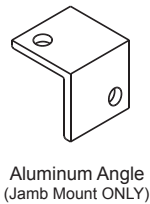
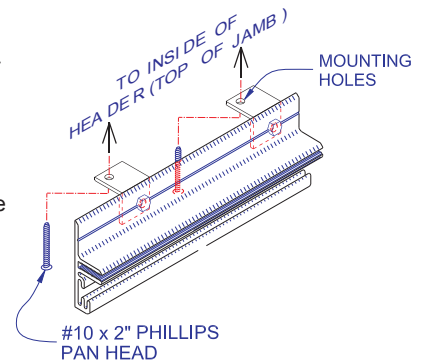

Figure 1b
Figure 6
- 2) Aluminum Angles (Jamb Mount Only) See Figure 1b
Locate the Aluminum Angle Brackets shown in Figure 1b - Page 1. There should be one angle bracket for every mounting hole on the back mounting bracket. Use the 1/4-20 x 1" Bolt with Nut to fasten the angle bracket to the back mounting bracket as shown in Figure 6. The top of the brackets should be flush with the top of the back bracket, refer to Figure 2b - Page 1.